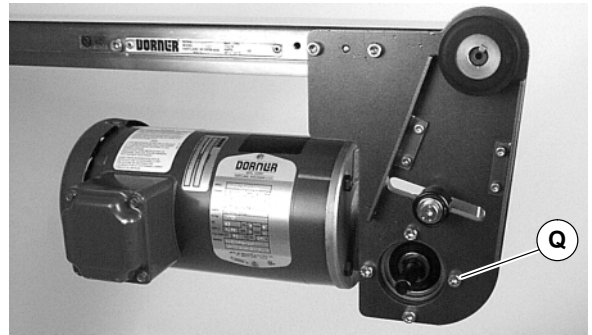

Figure 21
4. Remove four (4) gear reducer mounting screws (Q of Figure 21). Remove gearmotor.
- Install gearmotor to mounting bracket and tighten screws (Q of Figure 21) to 103 in-lb (12 N-m).